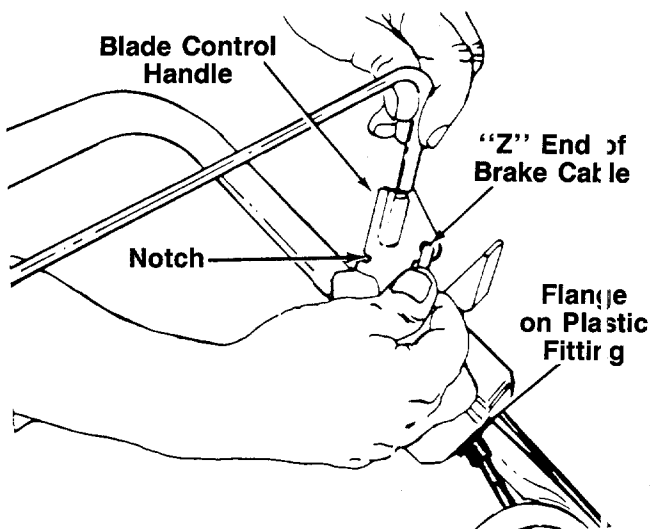

FIGURE 7.
3. Hook the "Z" end of the brake cable into the hole in the blade control handle from the inside to the outside as shown in figure 7.
The throttle control wire assembly can be adjusted if necessary. Loosen the screw on the cable clamp shown in figure 7. Adjust as instructed in steps 1 and 4 of "Attaching the Throttle Control Cable" in Assembly Instructions.